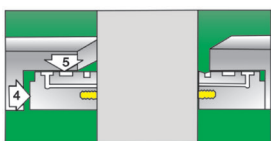

Figure 3
3. Body pressure relief creates inlet sealing. Pipeline pressure on the inlet seat (figure 3, item 4) pushes it against the wedge, creating double sealing. This creates tightness with the o-ring (figure 3, item 5) and seat groove.